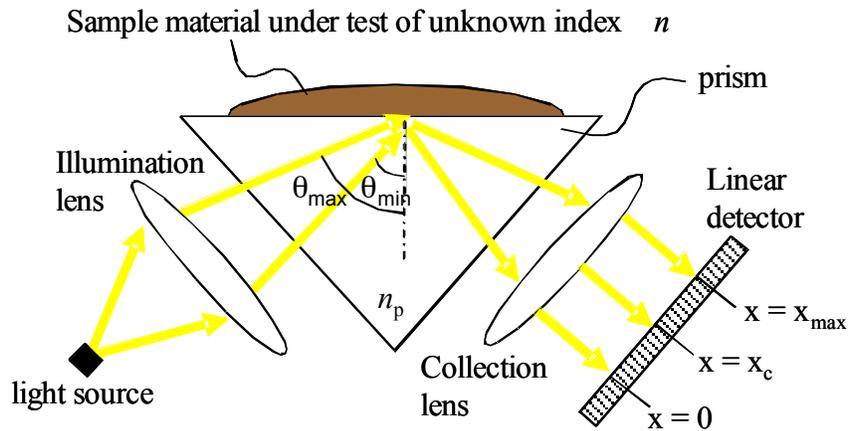

FIG. 3
Physically a refractometer is composed of a light source, a prism, and a linear detector array. As illustrated in **FIG. 3**, an illumination lens is used to direct the light from the light source to the prism and a collection lens collects the light that is reflected from the prism-sample interface and directs it towards the linear detector array. In modern digital refractometers the light source is typically a semiconductor laser or LED. The purpose of the illumination lens is to create a focusing beam or cone of light incident upon the prism-material interface that ranges in angles of incidence between  $q_{\min}$  and  $q_{\max}$ . The critical angle  $q_c$  of the prism-sample interface must be such that  $q_{\min} < q_c < q_{\max}$ , where  $q_c$  is the angle  $q_1$  at which  $q_2$  becomes  $90^\circ$ . From Eq. (2), in order for  $q_2 = 90^\circ$ , the argument of the arcsin on the right hand side of the equation must equal unity. Using  $n_2 = n$  for the index of refraction of the